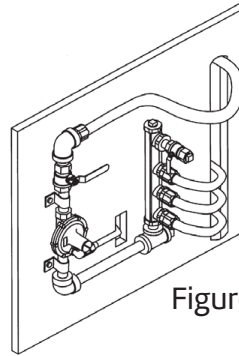

Figure 4.33
- D. A Manifold Station utilizing a pounds to inch regulator (figure 4.33) shall be installed in an accessible location to allow access to the regulator for inspection, service and replacement if required.